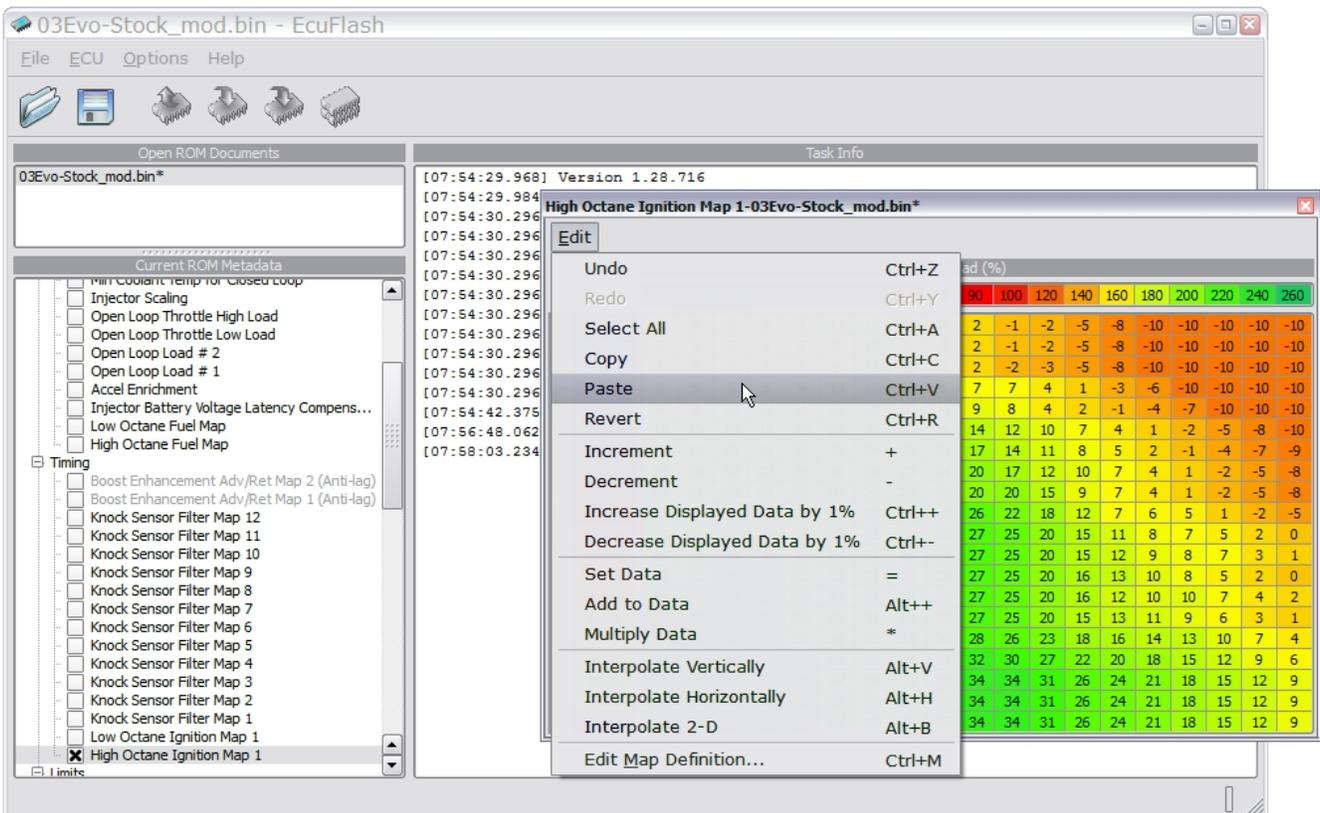

Figure 8, modified 2003 Evolution VIII ECU High Octane Ignition Map, paste
- Click on the Edit button in the map (figure 8)